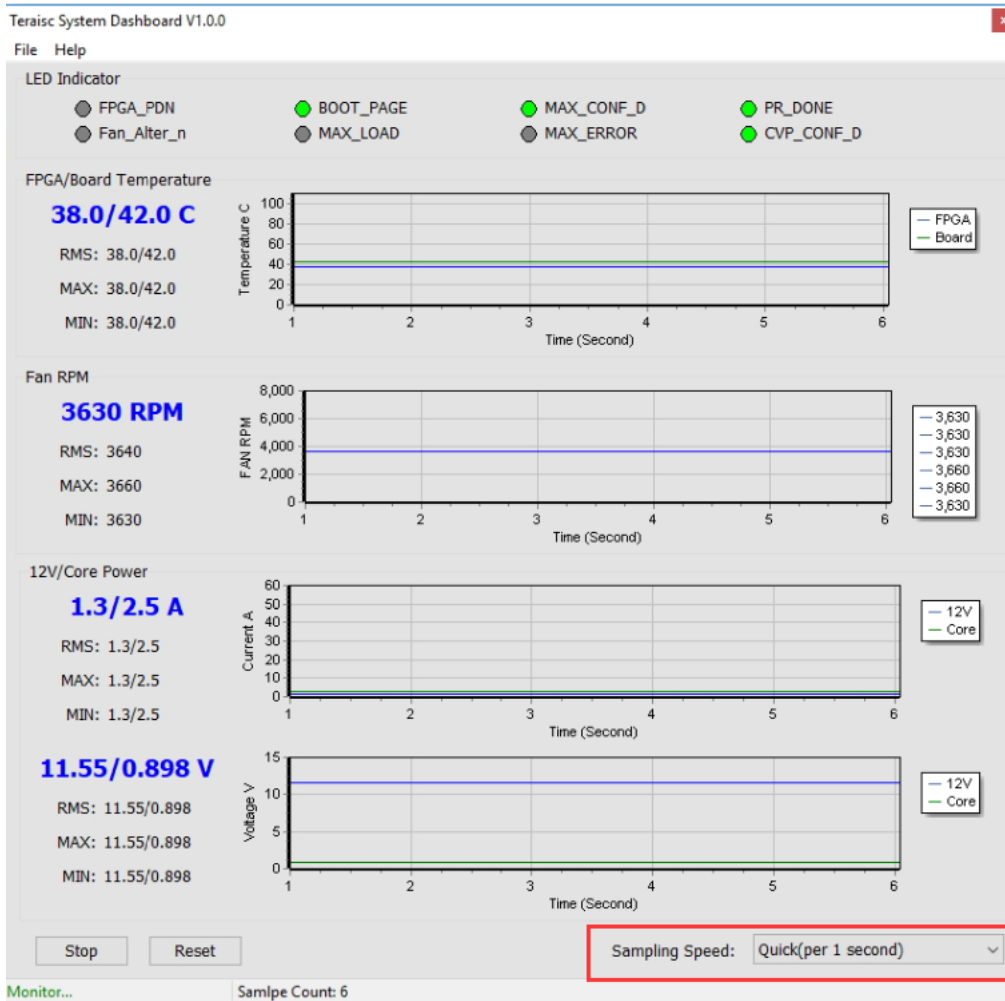
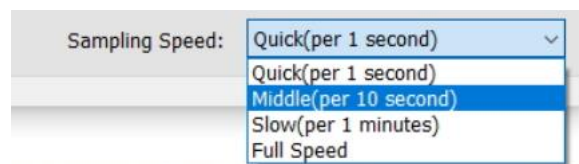

Figure 8-22 Sampling Speed section
Figure 8-23 Options of Sampling Speed
- **Sampling Speed:** It can change interval time that the Dashboard GUI sample the board status. Users can adjust it to 1s/10s/1min/Full Speed (0.1s) to sample the board status, as shown in **Figure 8-22** and **Figure 8-23**.